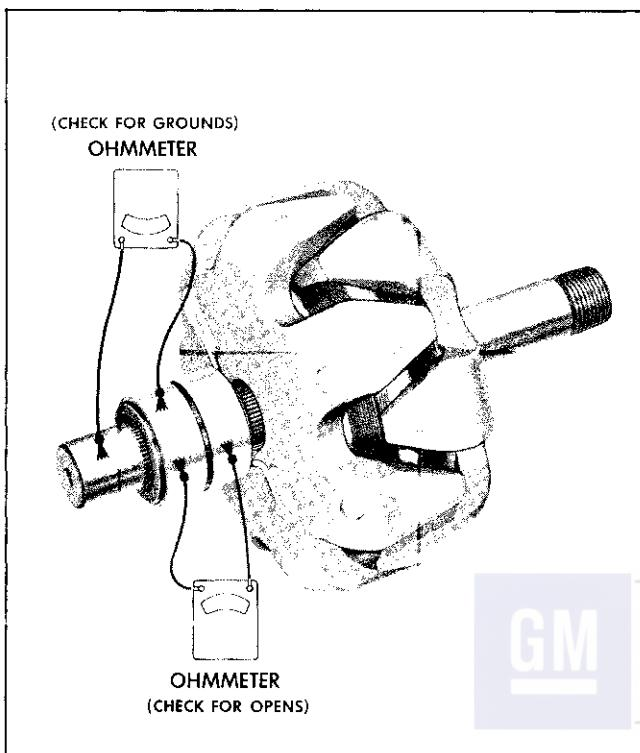

Fig. 6E-11 Checking Rotor
- To check for grounds, connect a 110-volt test lamp or ohmmeter from either slip ring to rotor shaft, or to rotor poles. If lamp lights or ohmmeter reading is low, the field winding is grounded (Fig. 6E-11).
- To check for opens, connect test lamp or ohmmeter to each slip ring. If lamp fails to light or if the ohmmeter reading is high (infinite), winding is open (Fig. 6E-11).